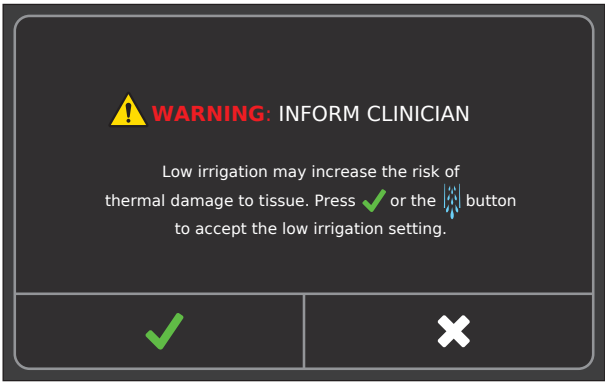

Figure 104 – Low Irrigation WARNING Pop-up
- If the irrigation setting is set below the 15 mL/min limit, a LOW IRRIGATION WARNING pop-up will appear (Figure 104). Two options are available: